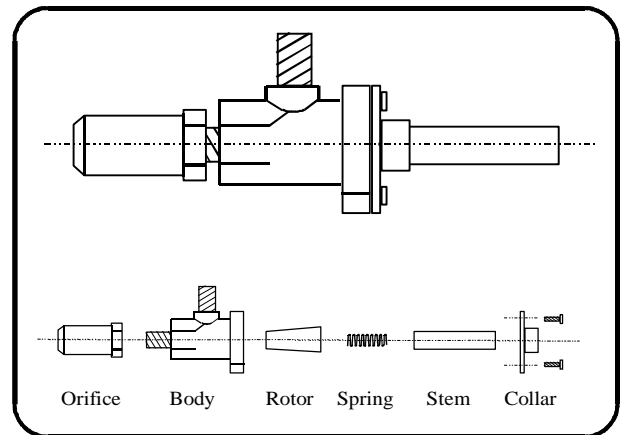

Figure 6
4. Carefully disassembly the valves. See Figure 6.